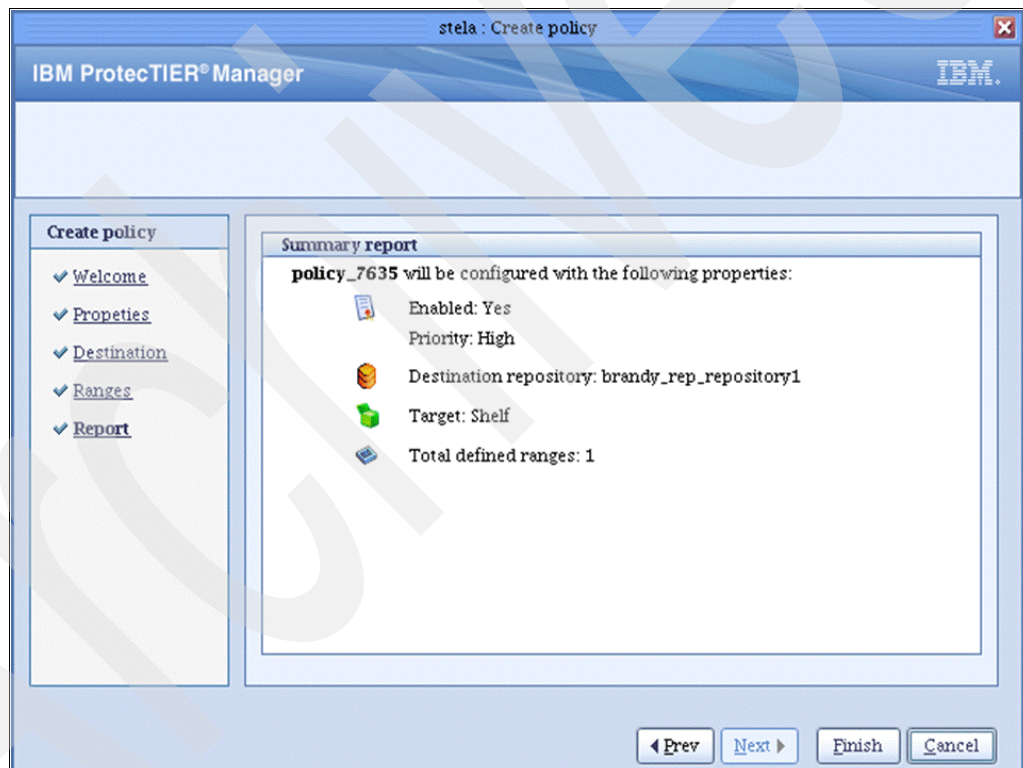

Figure 3-6 Replication policy
- ▶ Defines policies and assigns priorities (Figure 3-6).